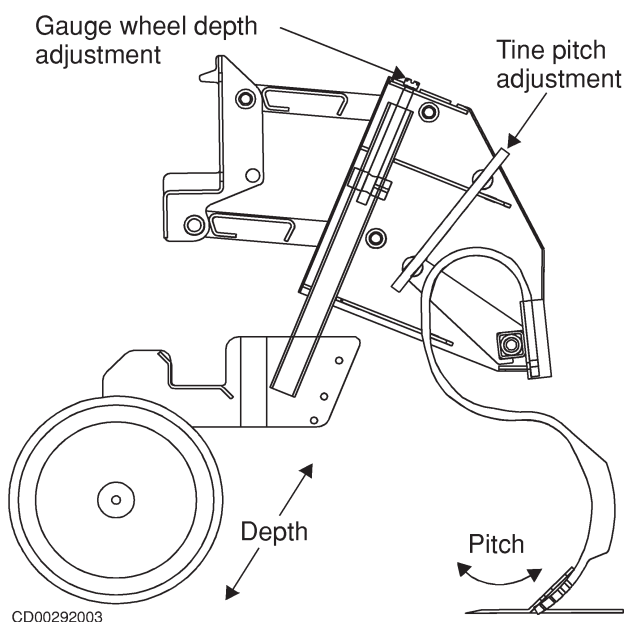

Figure 32 Gang Adjustment
4. Set tine pitch by adjusting tine pitch adjustment screw as shown in Figure 32.